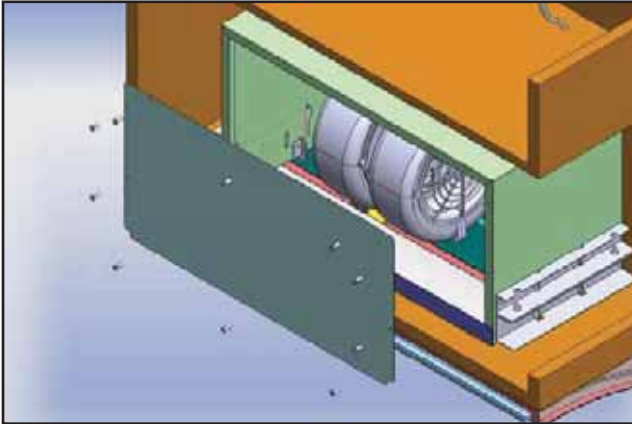

Fig.3
- 2) Unscrew the (10) screws from front panel and place the panel aside, Fig.3. You will now have access to the interior of the range hood.